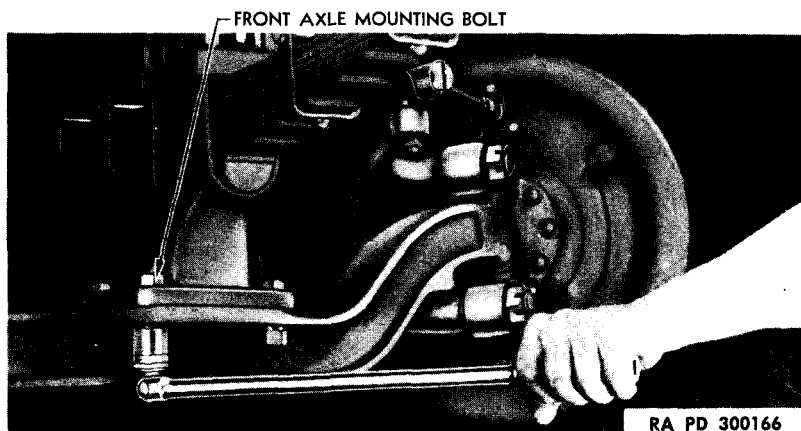

Figure 76—Tightening Front Axle Mounting Bolt
a. **Remove Axle.** Jack up front end of vehicle on both sides, using one jack under each frame side member, or a hoist, if available. Remove both front wheels (par. 139). Remove cotter pin from front end of steering drag link and take out threaded plug. Tap steering drag link out of left-hand steering spindle. Disconnect front wheel flexible brake lines at junction plate on frame. Hold fittings with two wrenches to avoid twisting lines. Remove the four nuts, bolts, and lock washers that hold the axle I-beam to the bottom of the mounting bracket on each side (fig. 76), holding the bolt head with one wrench, while turning the nut with the other. **CAUTION:** *Support axle while removing the last bolt and nut on each side. Lower axle carefully to the ground.*
a. **Install Axle.** Raise axle into position under mounting brackets and install four bolts, lock washers and nuts on each side (fig. 76). Tighten nuts and bolts securely, using one wrench on bolt head, and another on nut. Connect front wheel brake lines at junction plate on frame. Hold fittings with two wrenches to avoid twisting lines. Bleed all brake lines (par. 120). Position steering drag link over ball stud in left-hand steering knuckle arm, tapping into place with hammer, if necessary. Install adjusting plug in drag link and tighten securely. Turn nut back to nearest cotter pin slot and insert cotter pin, bending back with pliers. Install wheels on hubs and install and tighten six mounting cap screws alternately in rotation. Lower vehicle to ground and remove jacks or hoist. Check front wheel alinement (par. 104).